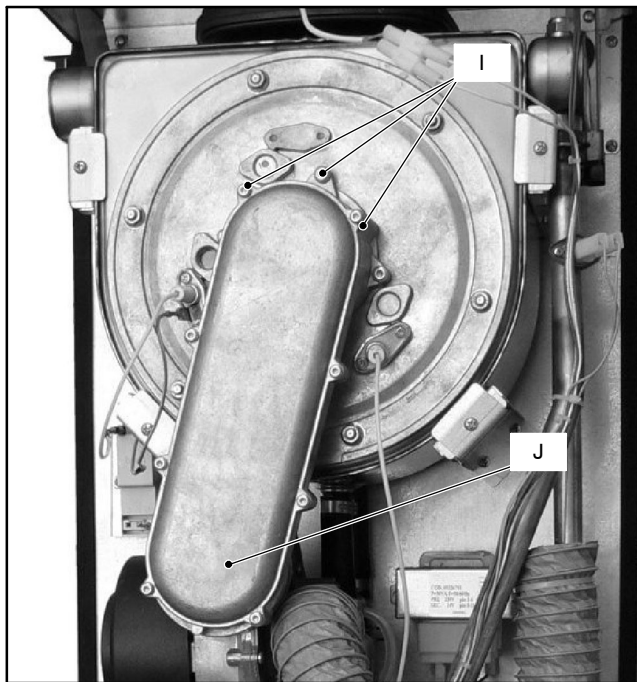

Fig. 17.4
- 8 Unscrew the screws I (Fig. 17.4) .